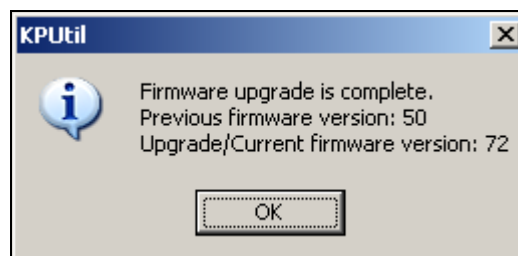

Figure 223
7. When the flash process is finished a *KIC* message will appear letting you know the process is complete and show the previous and new-current firmware versions. Select the “OK” button. See Figure 223.